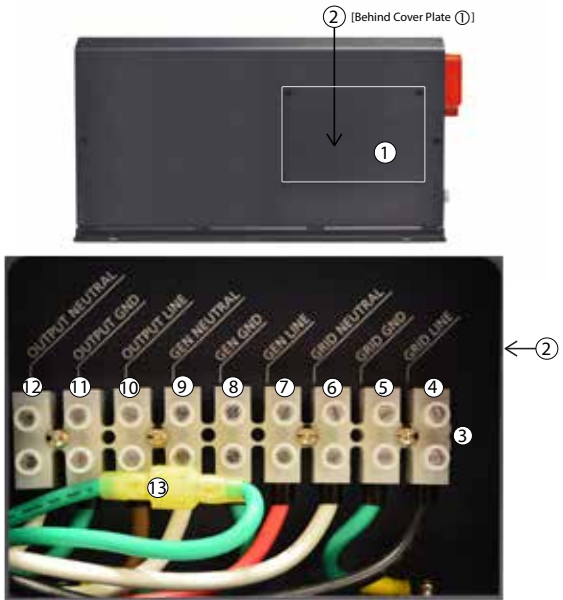

Fig 2.3 Layout-AC Side
2.3 MAIN UNIT: LAYOUT-AC SIDE (FIG 2.3)